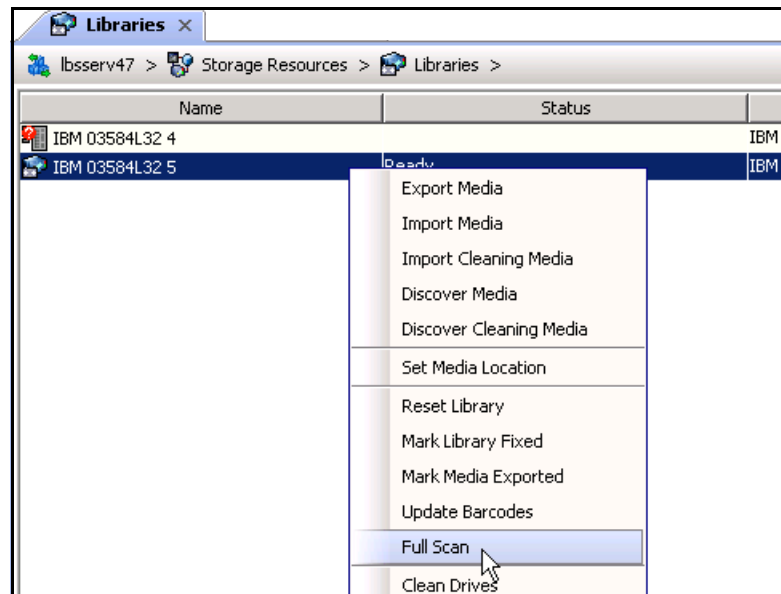

Figure 19-9 Perform a full scan of the library
- Perform a full scan of the detected tape library by using the Full Scan option from the library menu (Figure 19-9).